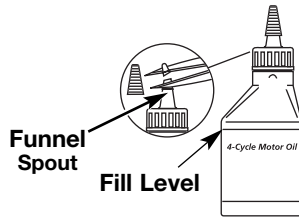

Fig. 9
Your unit is supplied with one 3.04 fluid oz. (90 ml.) bottle of SAE 30 SF, SG, SH oil (Fig. 9).
**NOTE:** Save the bottle of oil. It can be used to measure the correct amount during future oil changes (Fig. 9). See *Changing the Oil*.
1. Unscrew the top of the bottle of oil and remove the paper seal covering the opening. Replace the top. Next, cut the tip off the funnel spout (Fig. 9).